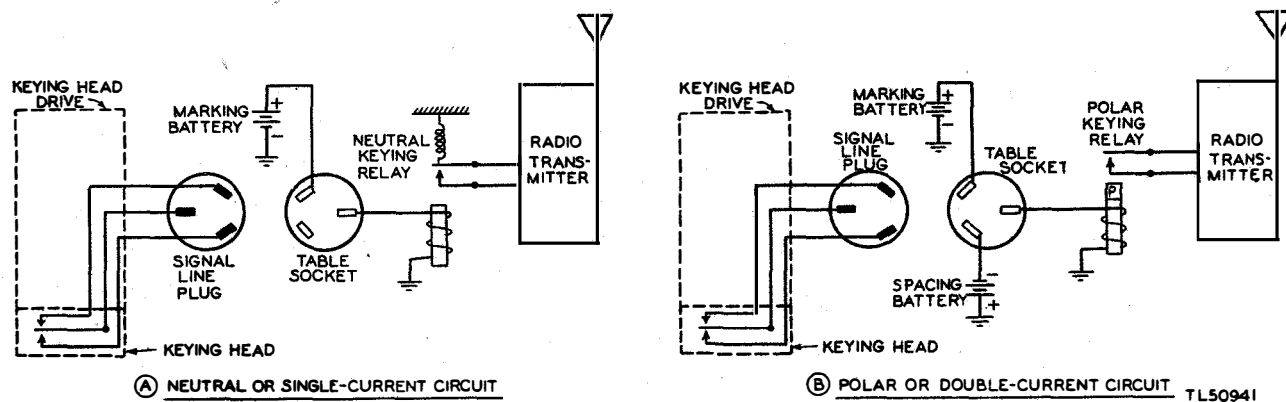

Figure 17. Typical single- and double-current circuits connecting automatic keying head and radio transmitter.
d. The Boehme relay, which has two pairs of contacts, connects the signal line to the marking and spacing battery (fig. 17) when the hand telegraph key is operated. The automatic or hand key switch marked AUTO-KEY (figs. 4 and 5) connects the center leg (line) either to the keying head for automatic keying or to the Boehme relay for hand keying.